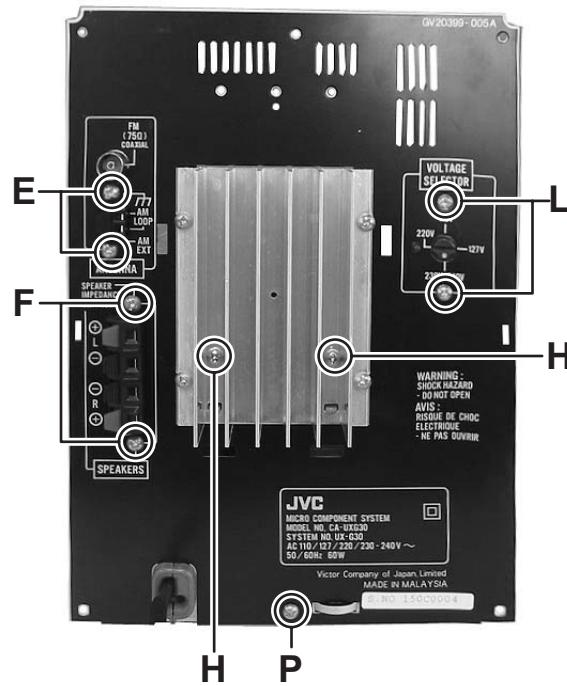

Fig.7
- (2) Remove the two screws **E** attaching the tuner pack. (See Fig.7)
- (1) Remove the two screws **F** attaching the micon board. (See Fig.7)
(See Fig.7, 8)
- (1) Remove the two screws **H** attaching the power IC. (See Fig.7)
(See Fig.7, 10, 11)
- (1) Remove the two screws **L** attaching the trans board. (See Fig.7)
(See Fig.7, 12)
- (1) Remove the one screw **P** attaching the rear panel. (See Fig.7)